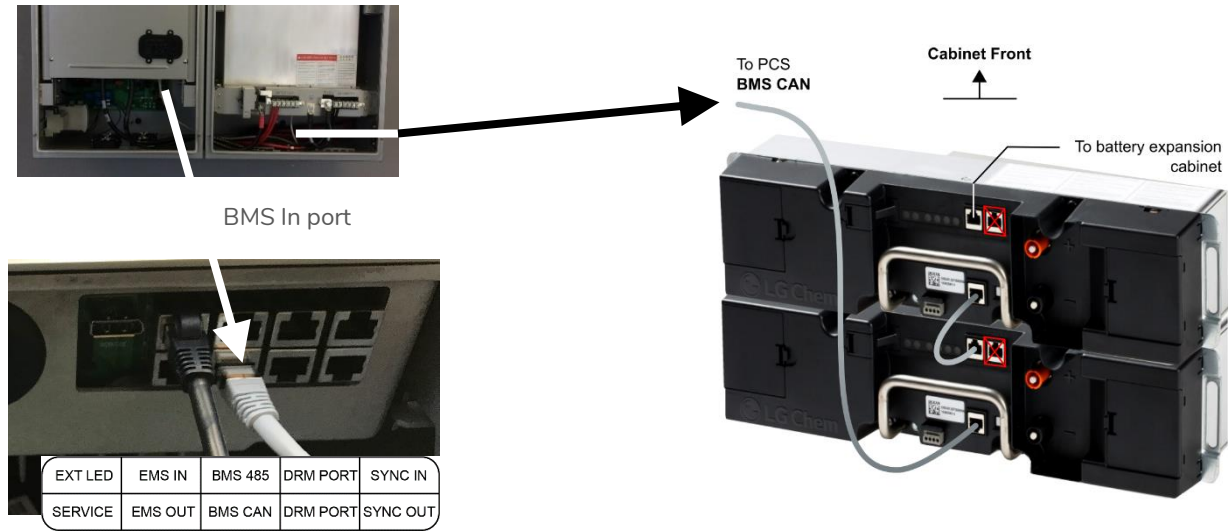

Figure 5: PCS - BMS high level communication wire installation. Left – PCS cabinet termination. Right – Battery cabinet termination.
1. PCS cabinet: Terminate the cable (p/n 801003338) at the **BMS CAN** port, as shown in figure 5, above-left.